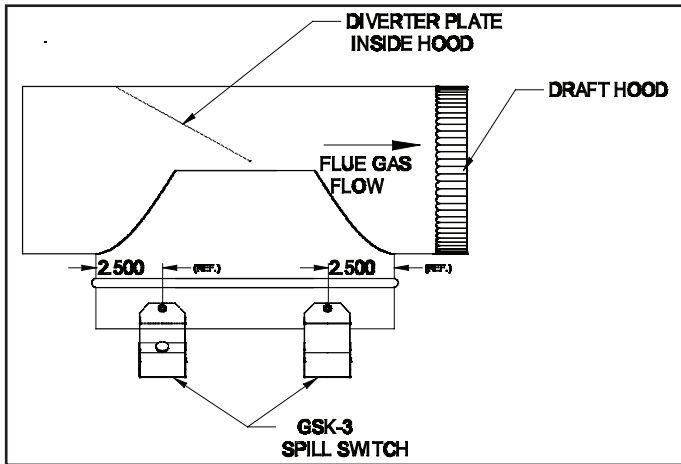

Figure 1
### IN-LINE HORIZONTAL DRAFT HOOD (See Figures 1 & 2)
1. Two (2) switches are recommended on these hoods. Mount the switches approximately 2½" from the opposite ends and sides of the draft hood opening. (See Figure 1)